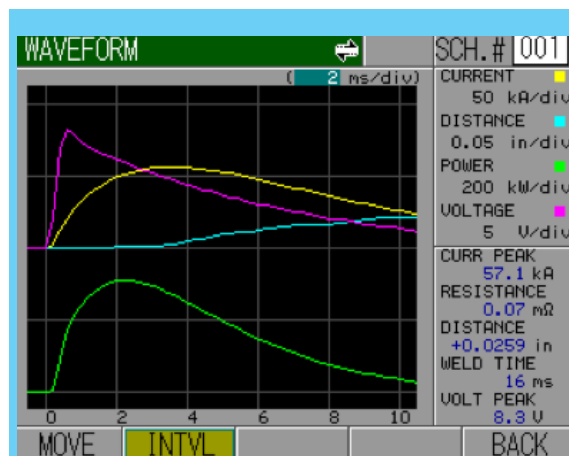

Figure 1
Capacitor discharge (CD) welding controls can deliver a peak current in 3 ms (see **Figure 1**). This fast rise to current allows for better use of the high contact resistance of the hot-stamped boron steel, resulting in total weld times typically less than 10 ms.